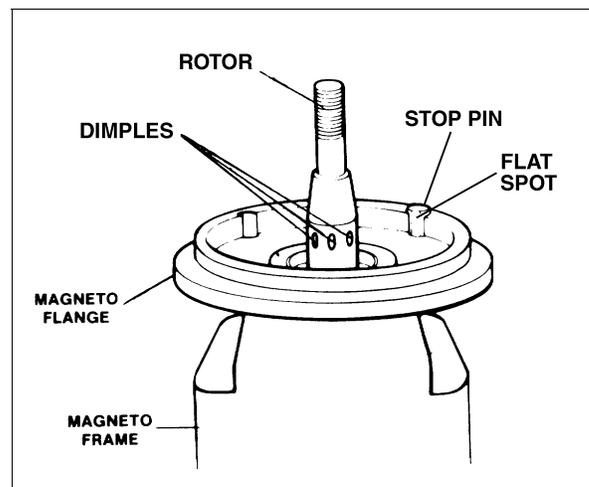
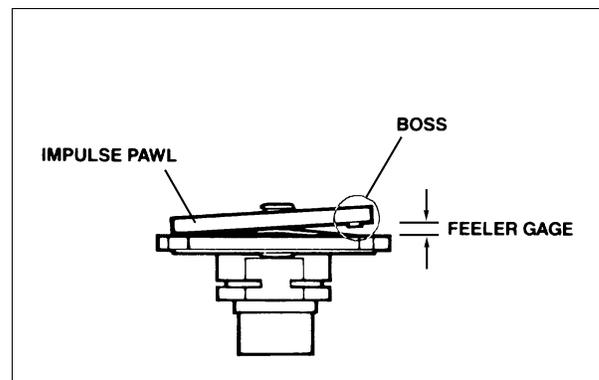

Figure 74-2. Rotor and Stop Pin
Figure 74-5. Measuring Pawl Clearance
- (1) Inspect ball bearing assembly by rotating rotor shaft. Shaft should rotate freely without binding or sticking, but should not appear loose. If not, replace bearings.
- (2) Inspect rotor for damage or worn keyway. Check rotor surfaces for wear.
- (b) Assemble bearings and rotor per paragraph E (1) & (2), below.
- (c) **In the left magnetos only** (i.e. - impulse coupled), inspect magneto rotor shaft at impulse coupling (see Figure 74-2). If the heel of the pawl has struck the shaft and caused the shaft to dimple in excess of .006 inch per side, the rotor shaft must be replaced.
- (3) **In the left magnetos only** (i.e. - impulse coupled), clean and inspect the impulse coupling:
- (g) Maximum clearance for pawls with one boss is .150 inch (see Figure 74-5). Maximum clearance for pawls with two bosses is .150 inch for left-hand rotation couplings and .140 inch for right-hand rotation couplings. If the feeler gauge passes between the full width of the boss(es) and the pawl plate, replace the impulse coupling.
- (4) **In the left magnetos only** (i.e. - impulse coupled), reassemble and install the impulse coupling:
- (b) Reassemble impulse coupling per paragraph E (5), below.
- (c) Inspect stop pin for looseness, cracks or corrosion (see Figure 74-2). Replace magneto frame, if found.